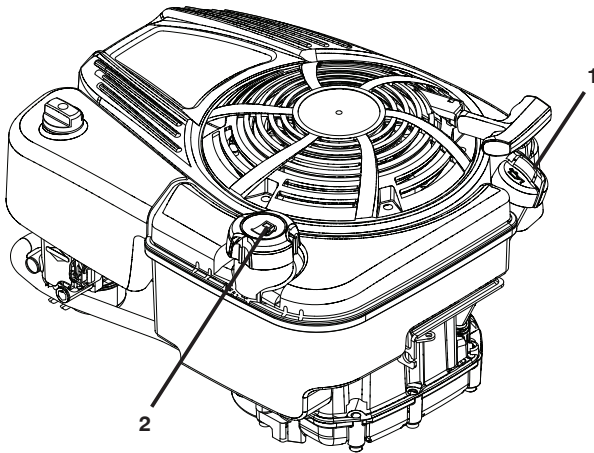

Figure 15
2. Remove dipstick from oil fill spout (Figure 15).
IMPORTANT: Fill fuel tank to bottom of tank filler neck. Do not overfill. Use fresh, clean, regular unleaded gasoline with a minimum of 87 octane. Do not mix oil with gasoline. Purchase fuel in quantities that can be used within 30 days to assure fuel freshness (Figure 15).